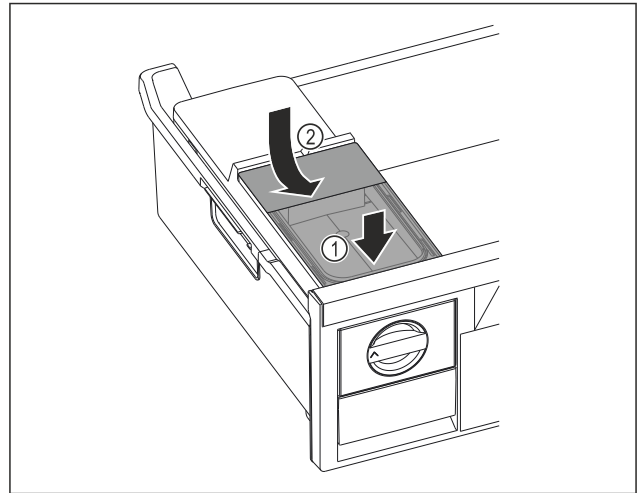

Fig. 122
- Position the water tank at the front. Fig. 122 (1)
- Lower the water tank at the rear. Fig. 122 (2)